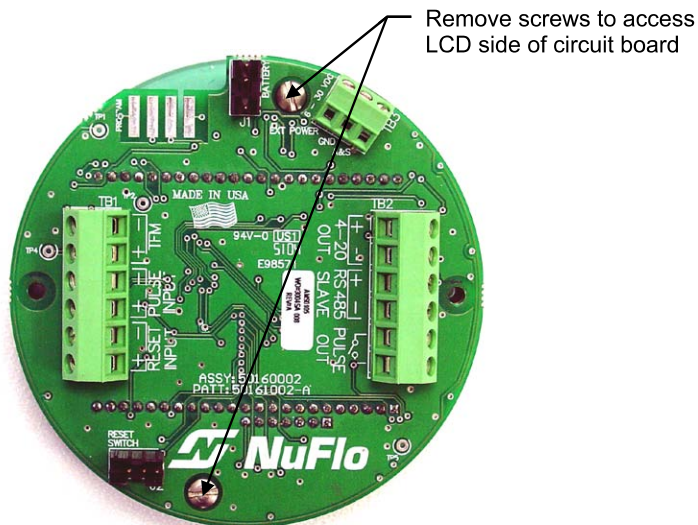

Figure 6.5—Disassembly of circuit board/keypad assembly
7. Remove the two #4-40 × 5/16” screws fastening the circuit assembly to the keypad assembly (Figure 6.5, page 96).
4. Remove the two #4-40 × 5/16" screws fastening the circuit assembly to the keypad (*Figure 6.5, page 96*).